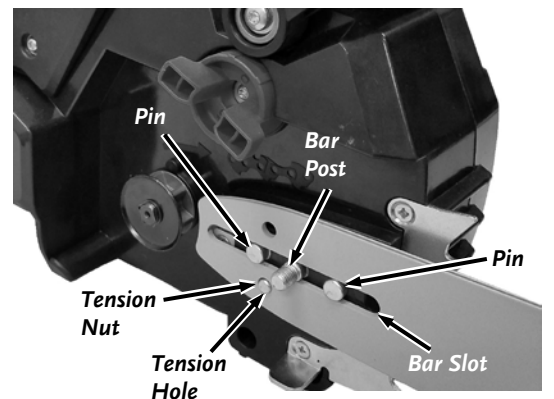

Figure 7
4. Position the Bar Slot over the Bar Post and Pins (**Figure 7**). Ensure that the Tension Nut is fully into the Bar Tension Hole.